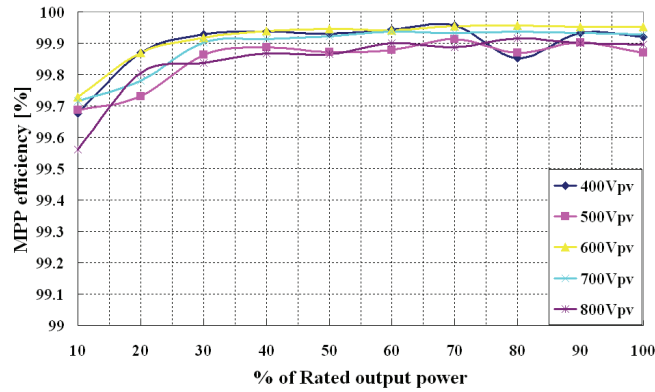
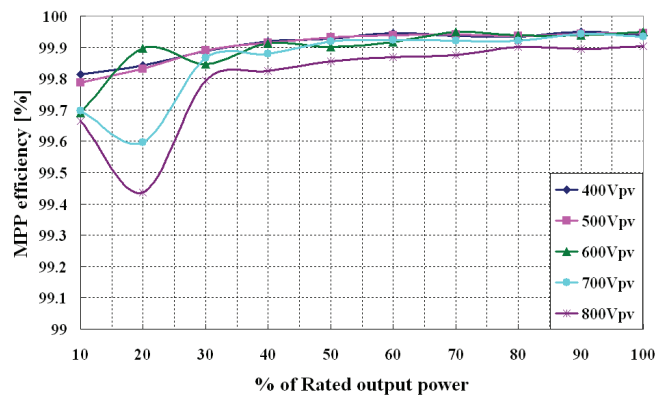

Fig 4.4.1 MPP Efficiency of the two PV strings in parallel
Fig 4.4.2 MPP Efficiency of the two PV strings in individual
The ISMG315/320 supports up to two (2) PV strings that can be either connected in parallel, feeding into a single MPP tracker, or connected individually to each MPP tracker. The efficiencies of the 2 configurations: two(2) PV strings connected in parallel and connected individually are shown in Figure 4.4.1 and Figure 4.4.2 respectively.